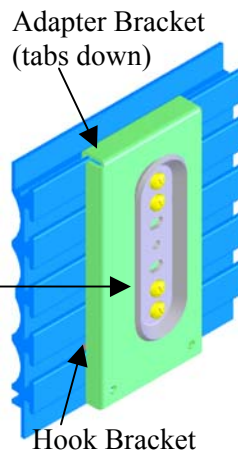

Figure 3
3. Insert the adapter bracket, tabs facing down, into tool tile-mounting slots at desired height and secure the bottom screw (see Figure 3).